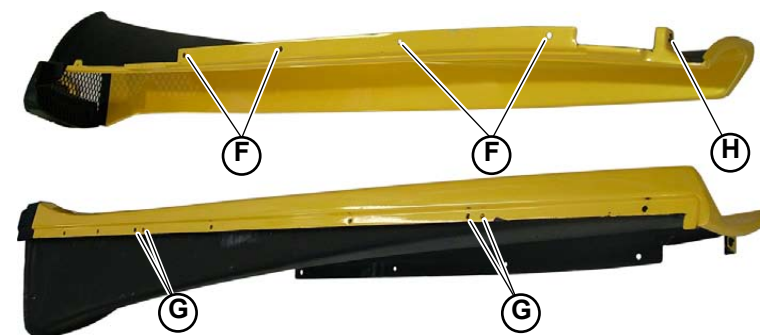

Fig.10
6. Unscrew the 4 screws (F-Fig.10) on the upper part of the side member.
7. Unscrew the 4 screws (G-Fig.10) on the lower part of the side member.
8. Unscrew the screw (H-Fig.10) at the front of the side member.